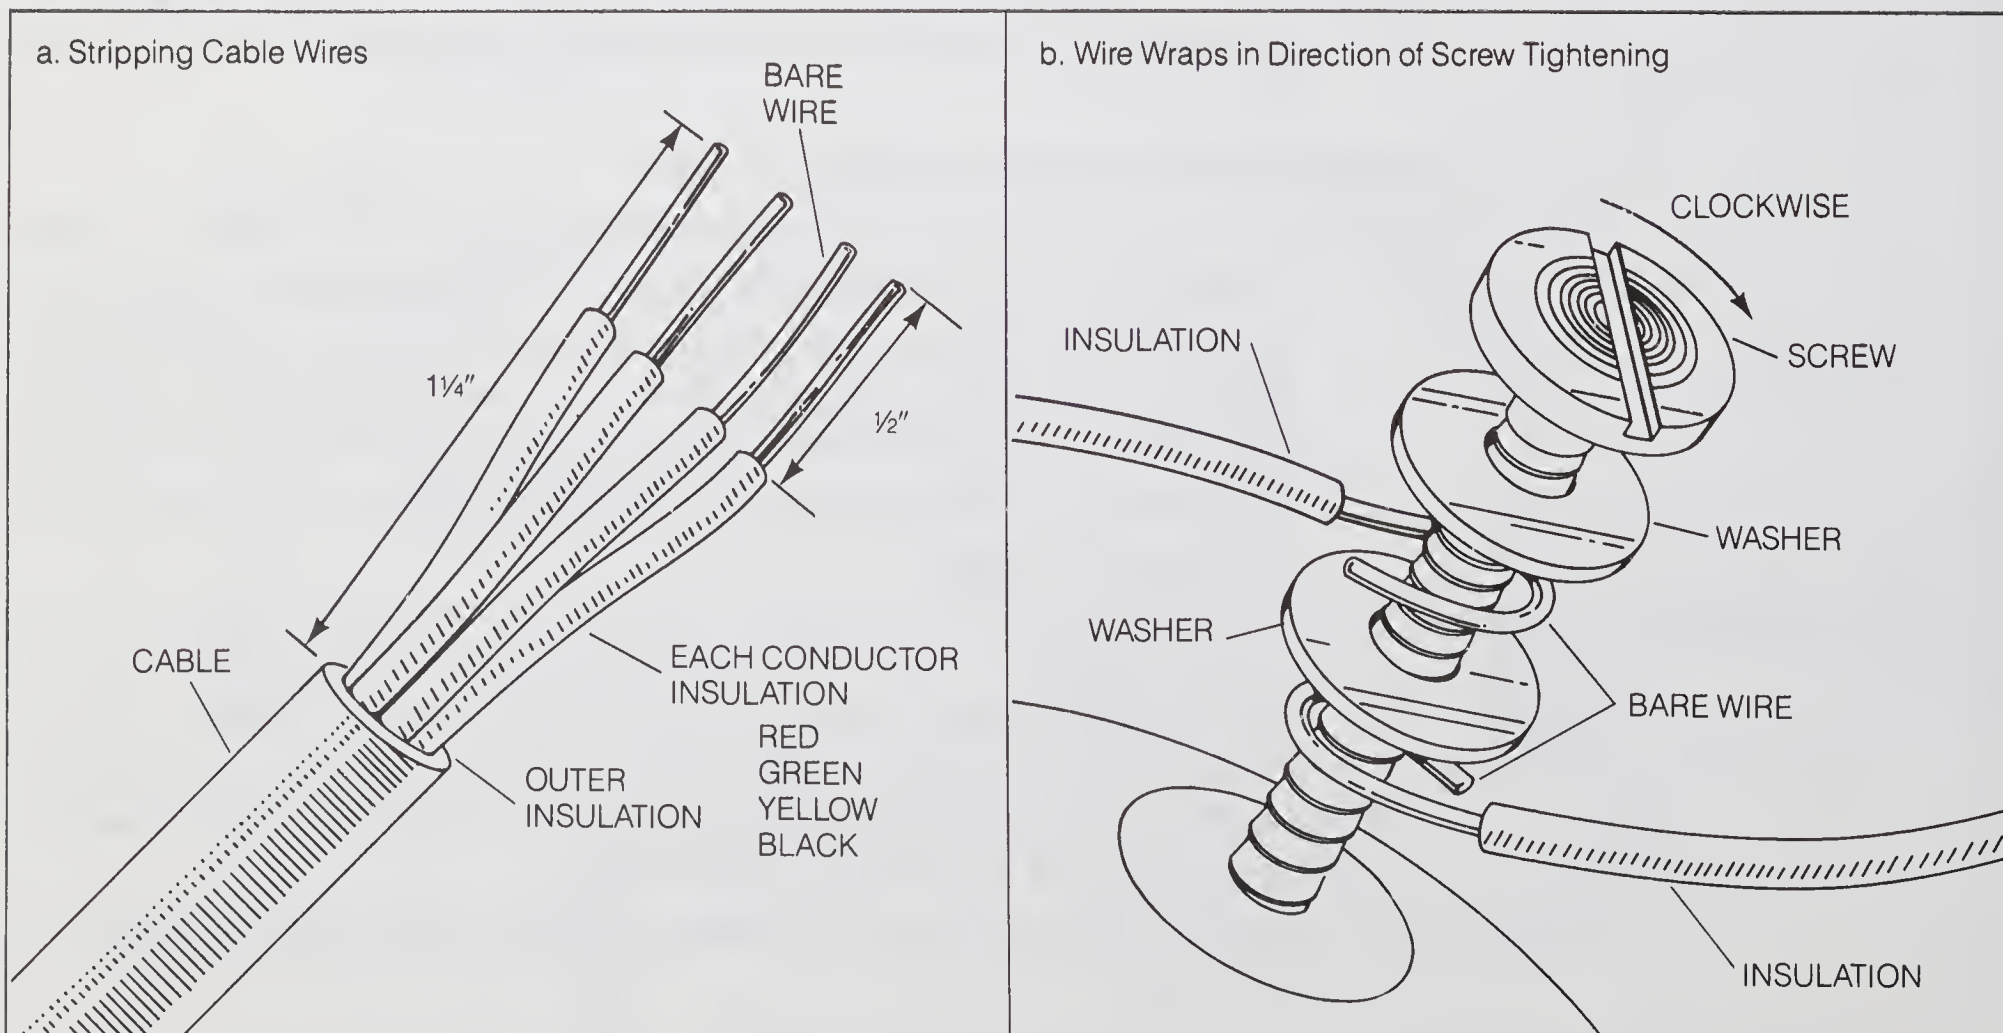

Figure 3-4.
4. Purchase a surface-mounted modular jack and extension cable of proper length with modular plug on one end and spade lugs on the other. If proper length does not fit standard cable, cut the cable to the correct length so that bare wire connections can be made in place of spade lugs. *Figure 3-4* supplies some hints on stripping and connecting bare wires.